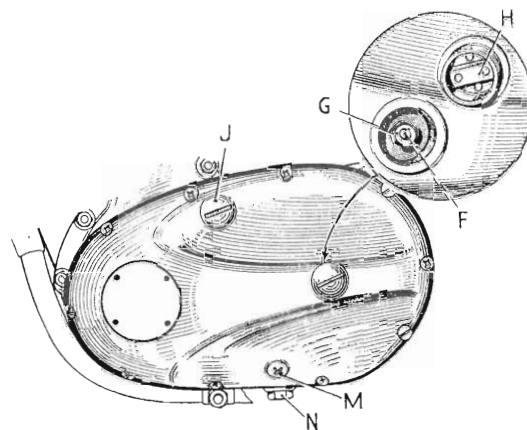
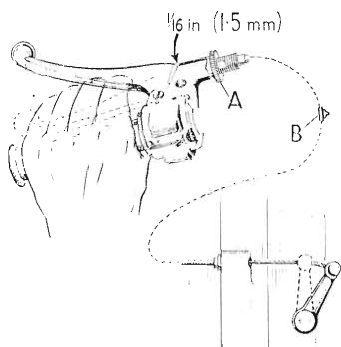

FIGURE 22. Clutch adjustment and chaincase oil level.
FIGURE 23.
An adjustable slipper-type tensioner is provided for the chain and its slackness can be tested after removal of the filler cap (J) Fig. 22. The chain is in correct adjustment when there is a minimum of $\frac{1}{8}$ " and a maximum of $\frac{1}{4}$ " of free play at the midway position between the sprockets.
The screw (M) Fig. 22, determines the oil level. To replenish with oil, first remove this screw and then the filler cap (J) at the top of the chaincase. Add oil of the correct grade (see "Recommended Lubricants", page 28) and allow to stand until any surplus oil has drained away. Replace the level screw and inspection cap. The machine should be on horizontal ground when this operation is carried out.
The main adjustment consists of a screw pin (F) and locknut (G) mounted on the clutch pressure plate. These are accessible after removal of the inspection cover (H) FIG. 22.
If adjustment is necessary, slacken off the handlebar cable adjuster (A) FIG. 23, and release the cable from the control lever above the timing cover on the right-hand side of the motor. Release locknut (G) FIG. 22, and adjust the pin (F) until the control lever is inclined outwards by a small amount. Add a short length of tubing to the lever to provide additional leverage and disengage the clutch, when the lever should take up a position approximately parallel with the timing cover joint face. If necessary the adjustment must be modified until this condition is obtained.
Finally reconnect the cable to the control lever and readjust the cable length at the handlebar lever until there is about 1/8" of free play (see FIG. 23). There must always be a small amount of play at the lever, otherwise the clutch will slip, with consequent rapid wear of the plates.